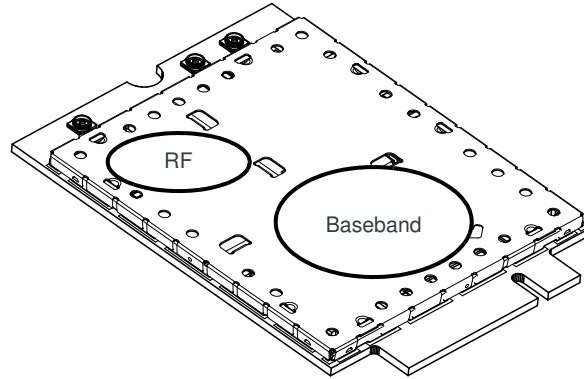

Figure 7-4: Shield Locations (Top View)
- Monitor temperature at all shield locations. Attach thermocouples to the areas indicated in Figure 7-4 on page 58 (RF, Baseband).